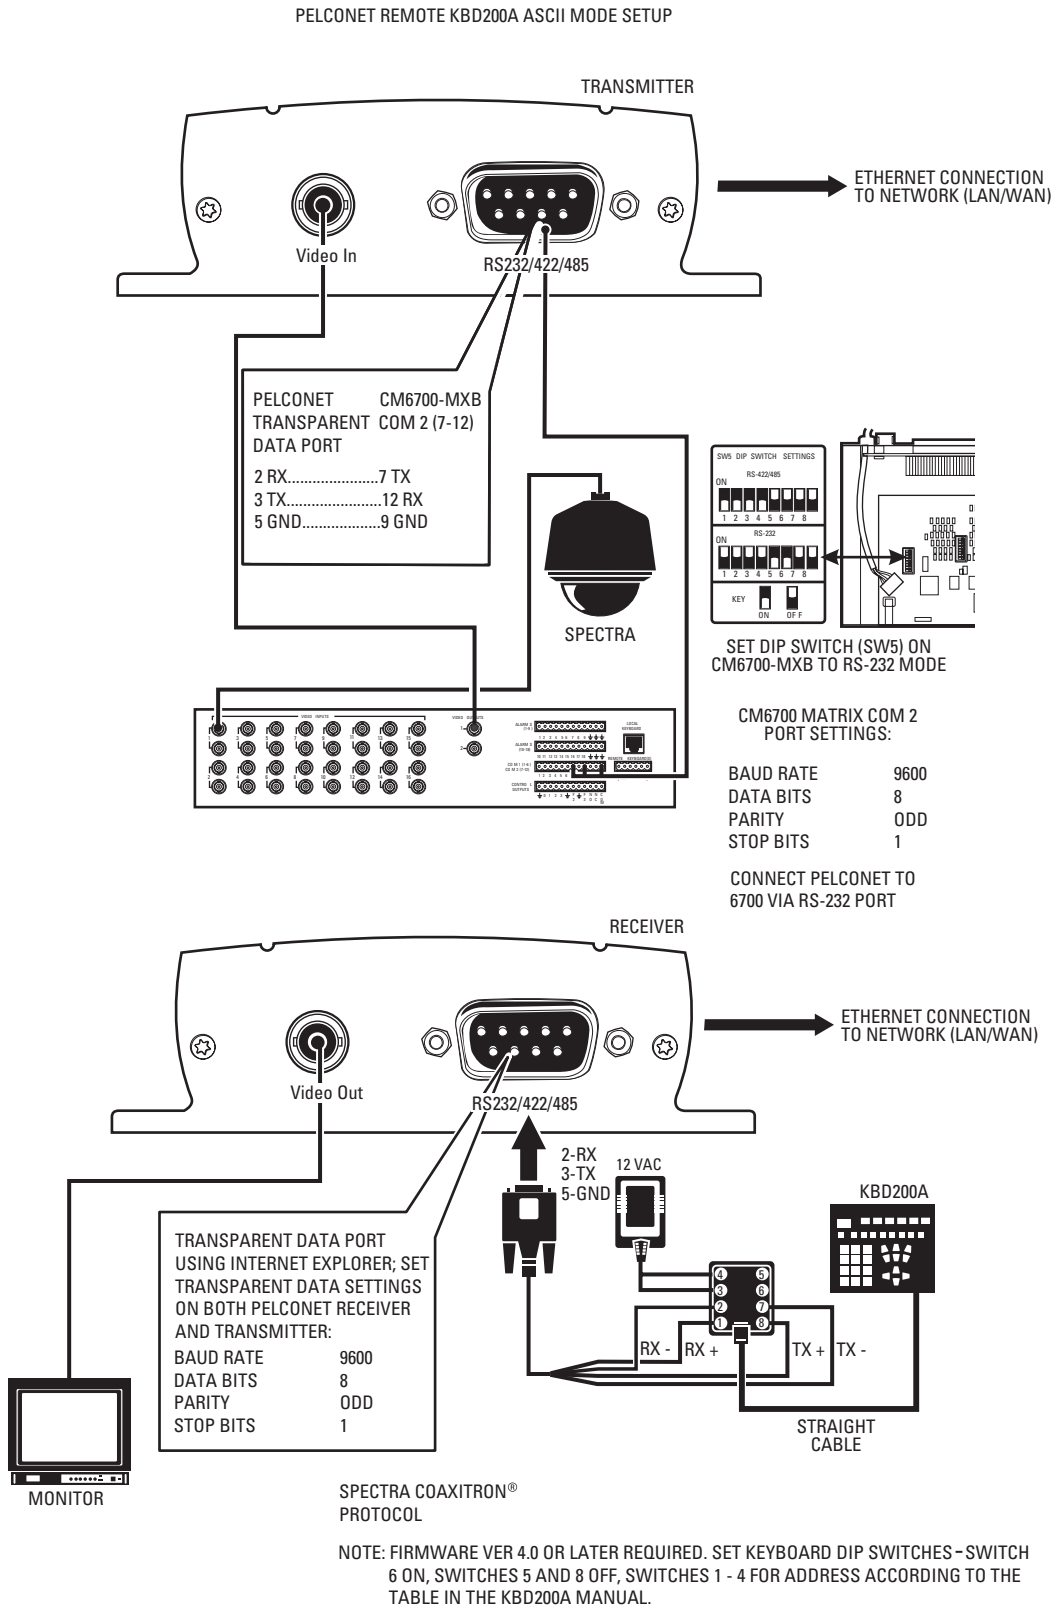

**Figure 48.** Connecting PelcoNet to Genex Using the COM Port
Refer to Figure 48 and the instructions that follow.
3. Create a cable using the diagram in Figure 48.